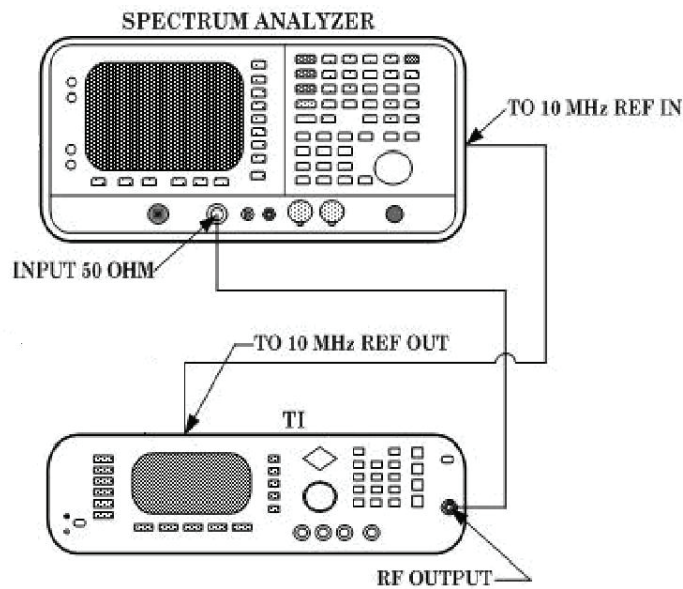

Figure 4. Spectral purity hook-up.
(1) Connect equipment as shown in figure 4.